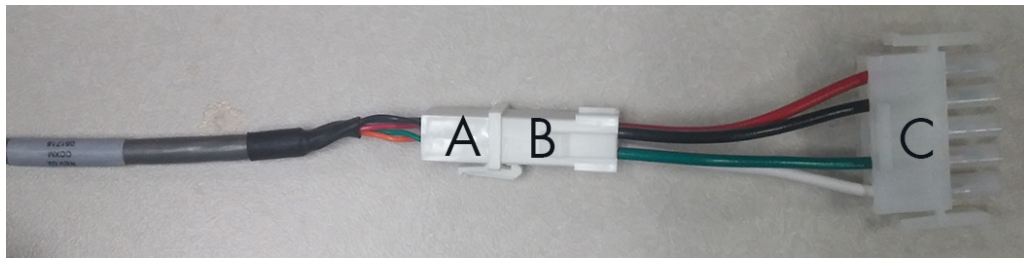

Figure 6: Radio Power/Signal Cable and Adapter
6. Connect the 6-pin power/signal cable from the radio receiver unit (**A**) into the mating 6-pin radio adapter cable (**B**). Refer to **Figure 6**.